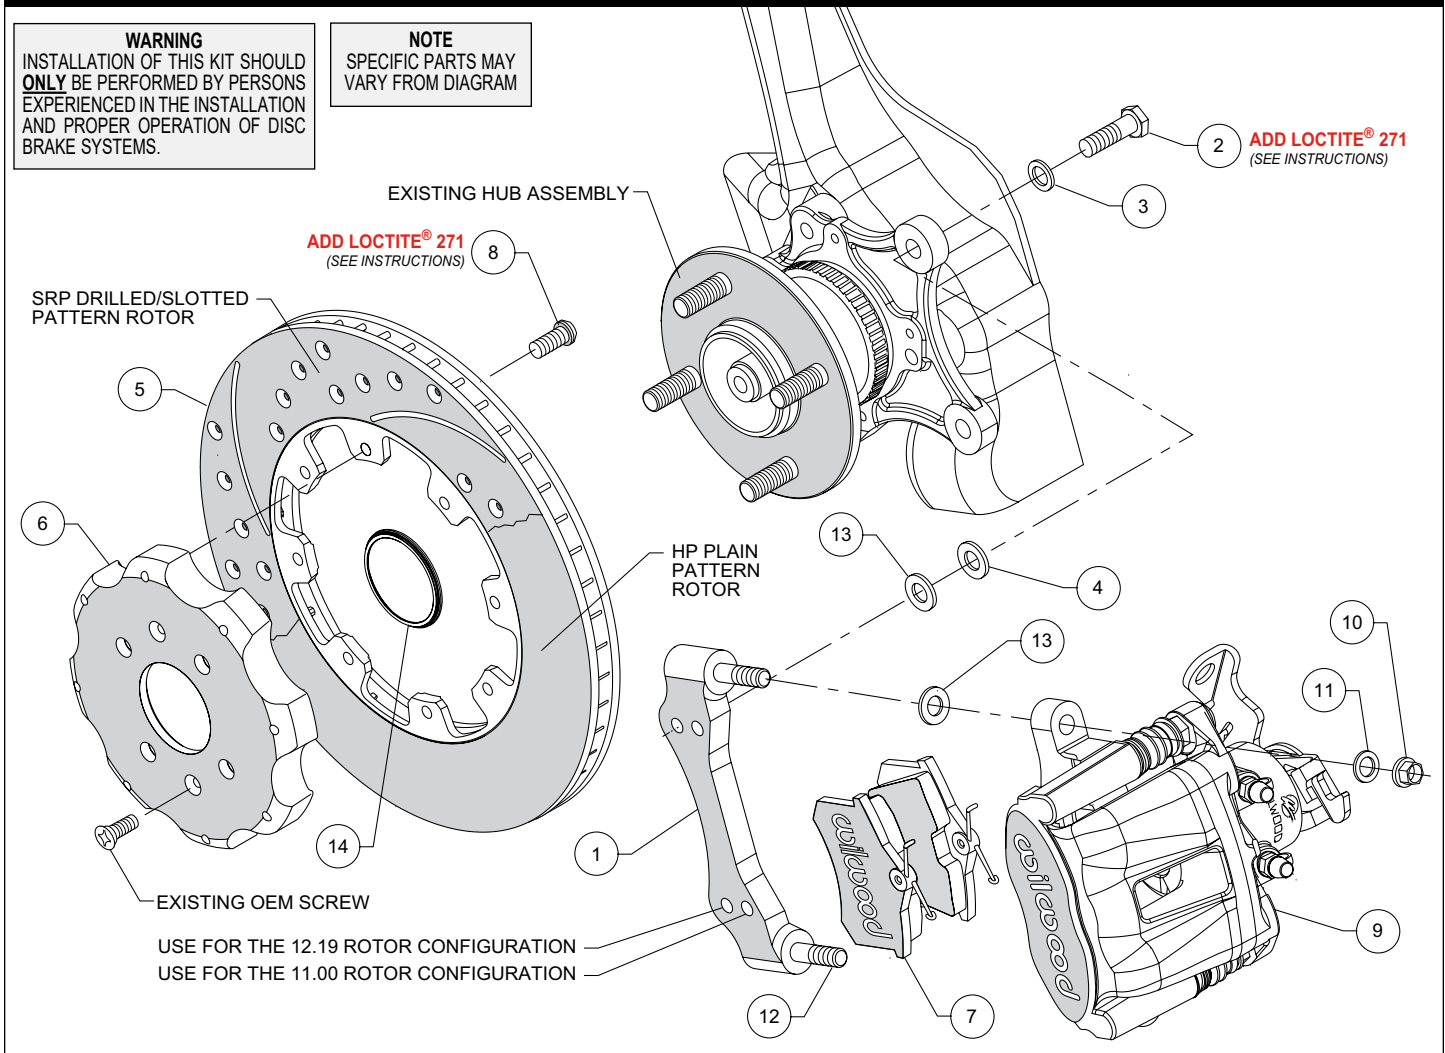

Figure 1. Typical Installation Configuration
- The caliper mounting bracket (1) should initially be installed with clean, dry threads on the mounting bolts. Orient the bracket as shown in Figure 1, and install using bolts (2) and washers (3). Initially place two .035" thick shims (13) between the bracket and upright, Figure 1 and Photo 2. Temporarily tighten the mounting bolts. **NOTE: The bracket must fit squarely against the mount bosses on the upright.** Inspect for interference from casting irregularities, machining ridges, burrs, etc. Later, after the caliper alignment has been checked, the mount bolts will be secured using red *Loctite*® 271.
- Orient the rotor (5) and hat (6) as shown in Figure 1 and Photo 3. Attach the rotor to the hat using bolts (8). Using an alternating sequence, apply red *Loctite*® 271 to the threads, and torque to 25 ft-lbs.
- Slide the rotor registration adapter (14) onto the axle register on the axle hub with the smaller O.D. facing outward, Photo 4.
- Install the brake pads (7) into the caliper (9) from the bottom, with the friction material facing the rotor, until the "v" spring clip snaps into place against the anvil, as shown in Figure 1 and Photo 5. They should install easily without interference.
- Initially place two .035" thick shims (13) on each stud as shown in Figure 1. Mount the caliper (9) onto the bracket (1) using lock nuts (10) and washers (11), Figure 1 and Photo 6. Temporarily tighten the lock nuts and view the rotor from the end of the caliper. The rotor should be centered in the caliper, Photo 7. If not, adjust by adding or subtracting shims (4 and/or 13) between the bracket and the upright. Always use the same amount of shims on each of the two mounting bolts. Once the caliper alignment is correct, remove the bracket mounting bolts (2) one at a time, apply red *Loctite*® 271 to the threads, and torque to 35 ft-lb.